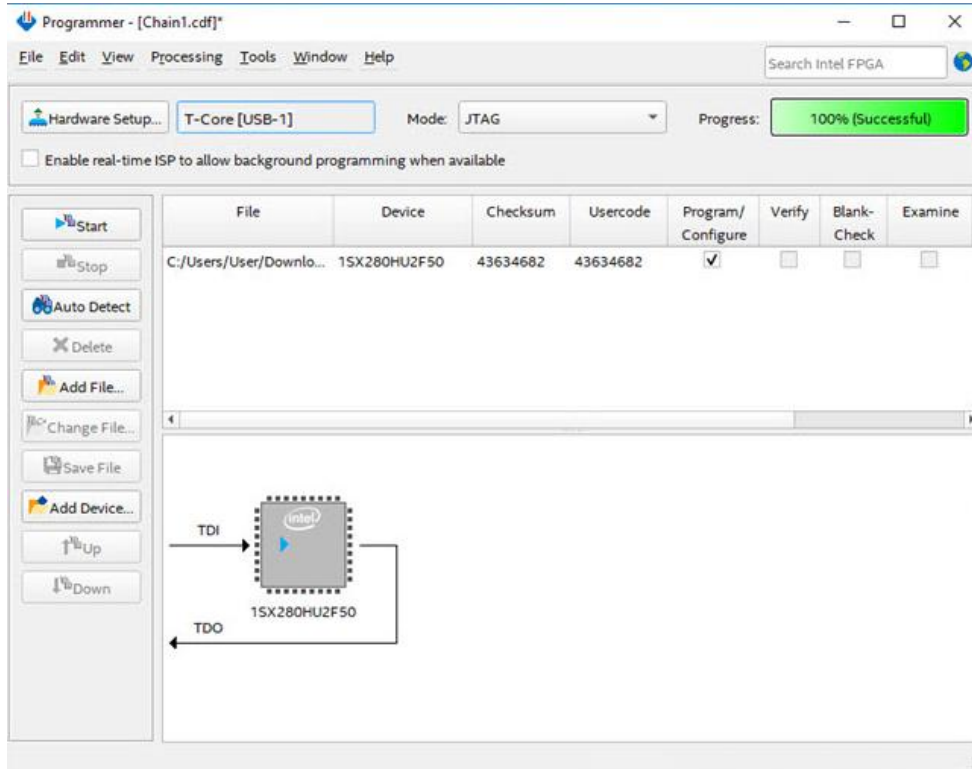

Figure 5-7 Using T-Core board to program the DE10-Pro
6. Select a .sof of the DE10-Pro project and download it. shows the success of the T-Core program Stratix 10 FPGA, as shown in Figure 5-7.